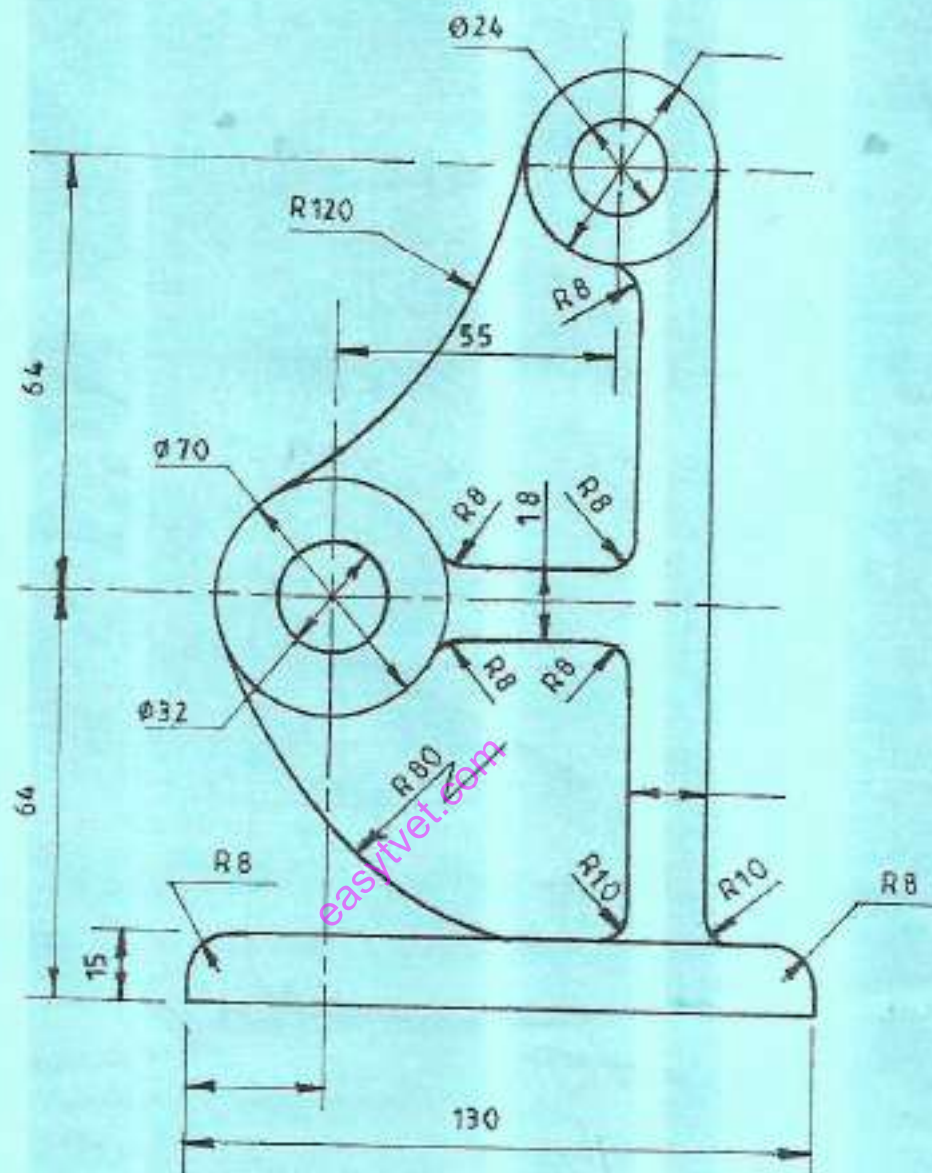

Fig.5
6. Figure 5 shows a support stand. Construct the profile.